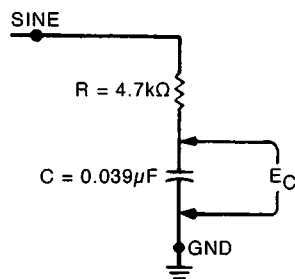

Figure 3-34
22. In this step you will show how capacitive reactance varies with frequency. Construct the circuit shown in Figure 3-34. You will use the sine-wave signal generated by the internal signal generator circuit on your trainer. Connect the SINE and GND outputs of the generator to the RC circuit you wired on the breadboarding socket. Set the range switch on the generator to the LOW position. Turn the frequency dial to the 200 Hz position.